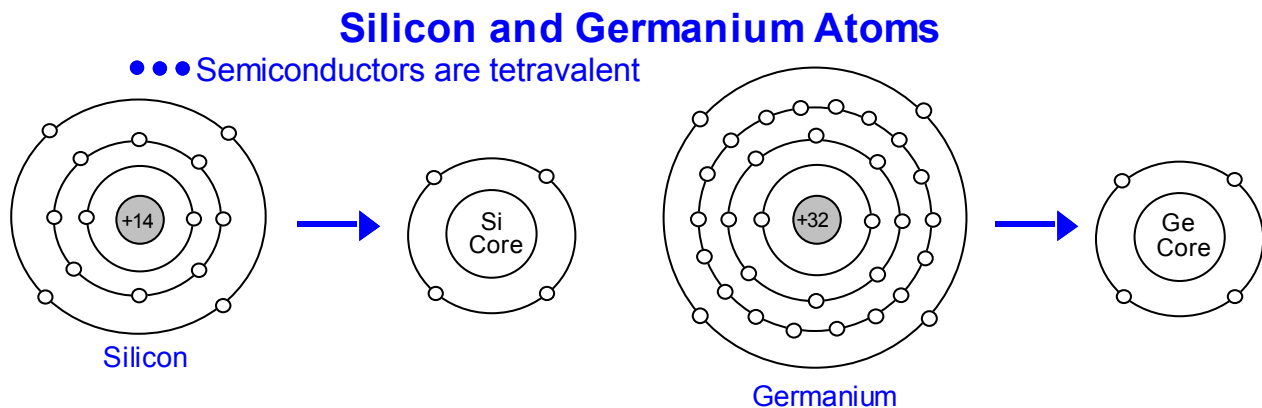

Figure 1-9.
Semiconductors have an electrical resistance that falls between that of electrical conductors (ideally zero ohms) and electrical insulators (ideally infinite ohms). From an atomic viewpoint, all semiconductors have four (4) valence electrons. Therefore, they are described as being **tetravalent**. In Table 1-1, we see a partial periodic table of the elements. The various elements, their individual chemical symbols, and their respective total (electrically neutral state) number of electrons is provided. Two of the most popular semiconductors are the elements silicon (Si) and germanium (Ge). Silicon has a total of 14 orbital electrons while germanium has 32 orbital electrons [see Fig. 1-9].
The silicon and germanium atomic representations can be simplified further as shown in Fig. 1-9. The **core** of the silicon atom contains its nucleus and its ten lower-orbit electrons. This serves to emphasize its four valence electrons. In a similar fashion, the core of the germanium atom contains its nucleus and 28 of its lower-orbit electrons.